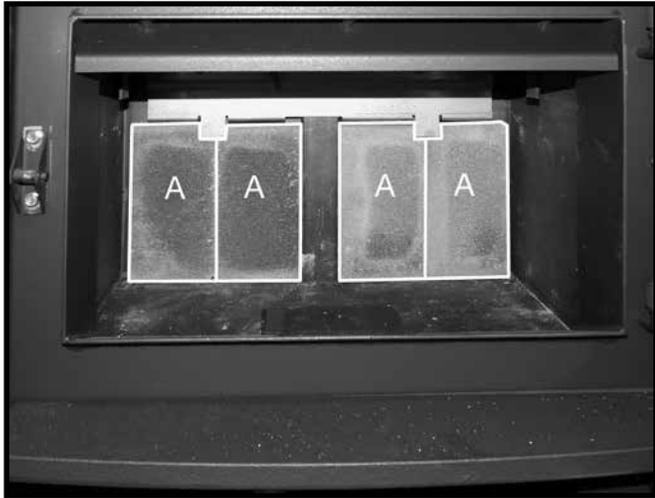

Figure 21: Remaining rear wall firebricks in place.
1. Stand one "A" firebrick vertically behind the tab located on the brick rail. Slide the firebrick toward the center of the rear wall (Figure 21). Slide a 2nd "A" firebrick underneath the tab on the brick rail (Figure 21). Repeat steps 1 & 2 for the placement of the other "A" firebricks on the rear wall (Figure 21).